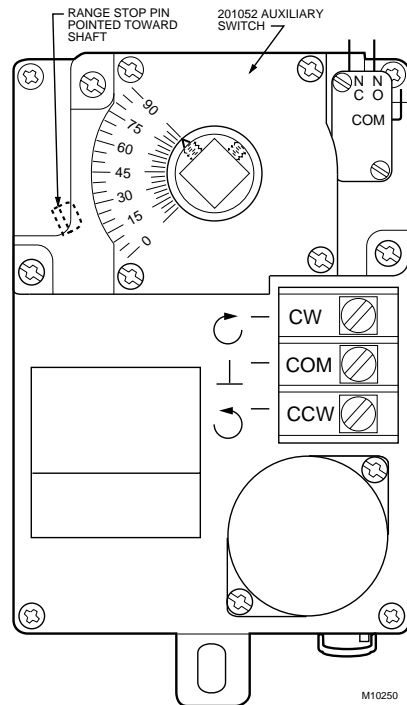

Fig. 4. ML6161 DCA with 201052A Auxiliary Switch.
2. Align the switch hub with the set screws on the actuator. See Fig. 4. Mount the switch on the actuator and tighten the three captive screws.